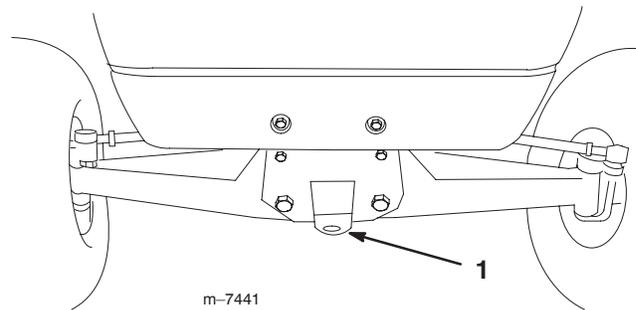

Figure 27
2. Affix a tow line to the tongue on the front frame member (Fig. 27).